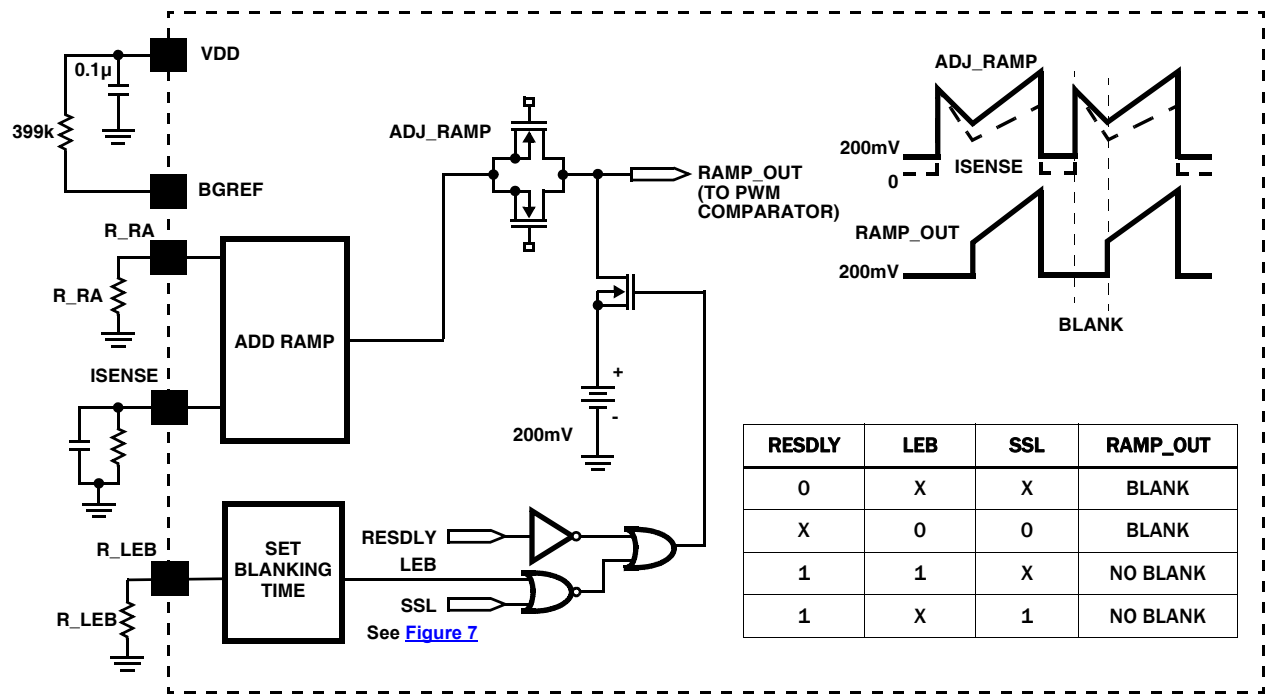

FIGURE 12. SIMPLIFIED RAMP ADJUST AND LEADING EDGE BLANKING CIRCUITS
- The ramp adjust block adds an offset component (200mV) and a slope adjust component to the ISENSE signal before processing it at the PWM Logic block, as shown in Figure 12. This ensures that the ramp voltage is always higher than the OAGS (ground sensing opamp) minimum voltage to achieve a “zero” state.
- Typical ramp values are hundreds of mV over the period on a 3V full scale current. Too much ramp makes the controller look like a voltage mode PWM and too little ramp leads to noise issues (jitter). The amount of ramp (V_{ramp}), as shown in Figure 12, is programmed with the R_RA resistor and can be calculated with Equation 10.